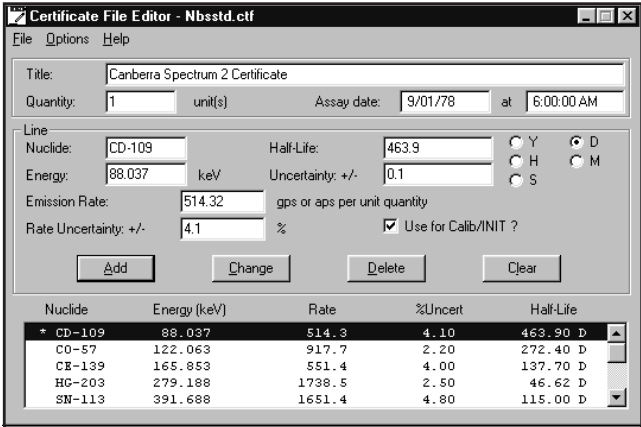

Figure 158 Editing a Certificate File
Select the **File | Open** command to load a Certificate File, then select the NBSSTD.CTF file. The result will be the screen in Figure 158.
6. **Uncertainty.** This is the uncertainty of that half-life, expressed in the same units as the half-life. For example, in Figure 158 the data shown would be read as “The half-life is 463.9 Days plus or minus 0.1 Days.”